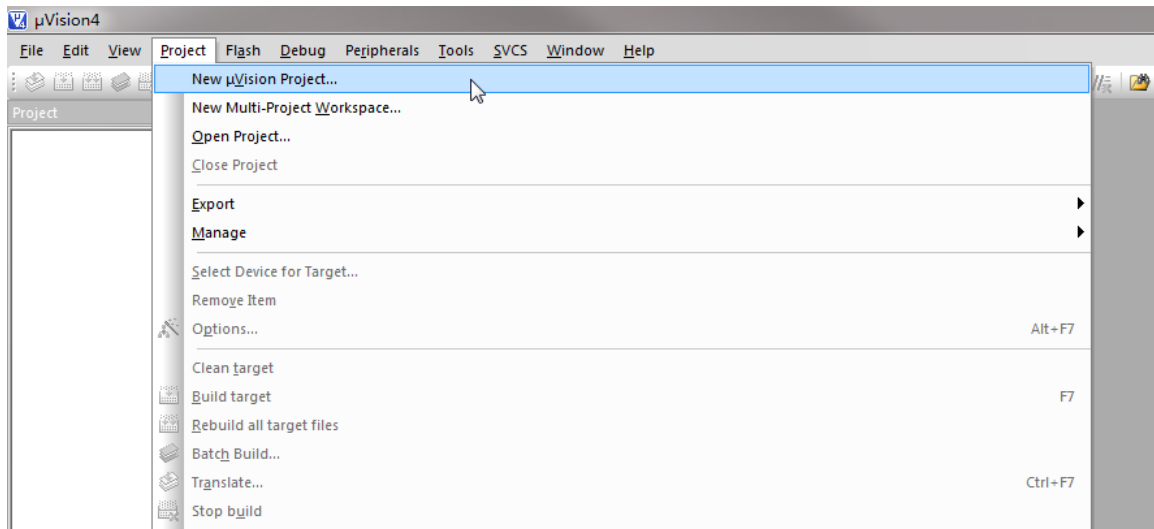

Figure 1-2. Project Drop-Down Menu
- Step 2: Select "Project" in the menu bar, and then select "New μ Vision Project ..." in the Project drop-down menu, and the new Project window will pop up, as shown in Figures 1-2 and 1-3 below.